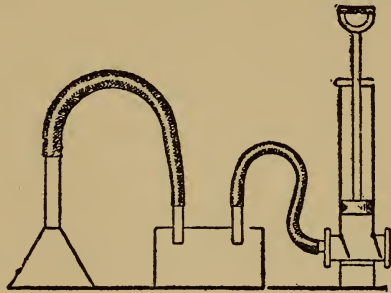
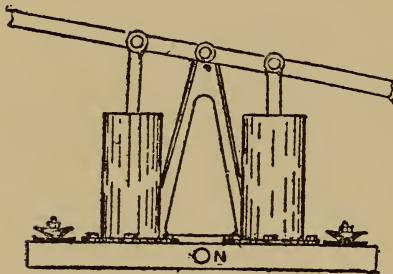

Fig. 214. Home-made vacuum cleaner
Fig. 216. Simple vacuum cleaner
A single hand vacuum cleaner can be made from a powerful suction pump, as indicated in the sketch Fig. 214. This should be connected with a metallic box by means of a flexible armoured rubber hose, covered at the end with a piece of fine wire gauze to prevent large particles of dust, etc., being drawn into the pump. To another opening of the box should be fastened another flexible rubber tube, with a bell-shaped metal attachment at the end. The bell-shaped arrangement should be held closely to the carpet while the pump is in action. Within the box, the pipe to which the pump is attached should be bent upward, so that the rush of air shall not bring the dust with it; the object being to collect the dust in the box. A lid covers the box so that it can
Fig. 214, shows the section of a single barrel, but should a greater supply be required, two barrels may be worked and connected as shown in Fig. 216. The pump is easily made, and of light construction.
of a length of 3-inch brass tube with a flange cut from  $\frac{1}{8}$ -inch sheet brass. The barrel is 8 inches long. G is the plunger, which may be constructed as a piston; but in the drawing, it is adapted to the arrangement that is shown in Fig. 216. With a piston will be required a guide for the rod at the top of the cylinder. E is a hydraulic cup, its leather kept soft and pliable by oiling. B is the base, which is hollow, and may be built up in sheet metal. At the
C. C and D are two valves with guards. The valves are discs of very soft and pliable leather, well saturated with grease, D being the inlet from the dust box, and C the outlet to the atmosphere. The drawing clearly shows the construction of the other parts. Fig. 216 shows two pumps fitted to one base and worked by a rocking lever; both pumps are in communication with the one inlet N. This arrangement of pumps is easy to work, portable,